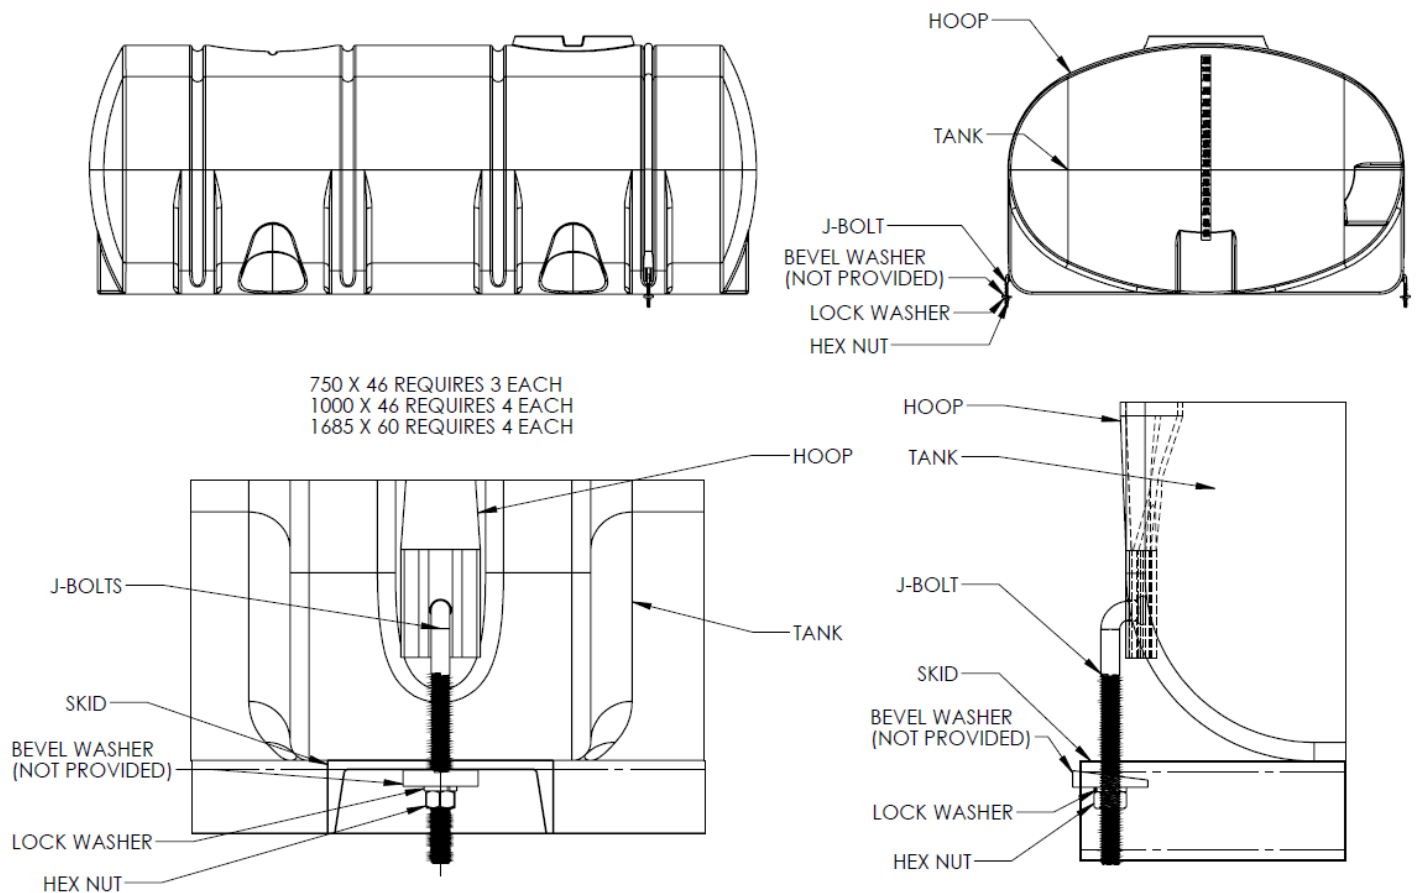

Figure 8.8
8.8.1 Horizontal leg tanks are to be used only with adequate support. The hoop pipe restraints restrain the leg tank and give it structural support. Hoop restraints are available for tanks 525 gallons and larger. Hoops are required on tank sizes above 730 gallons. An example assembly drawing is shown in Figure 8.8.
8.8.2 With one person on each side of the tank, insert J-bolts into the hoop holes and lift the hoop into position directly above the tank legs. Spread the hoop slightly while sliding the hoop (centered in the pipe guide channel formed into the tank legs) onto the tank. Install the bevel washer, lock washer, and hex nut on each of the J-bolts loosely. Do not tighten the hex nuts yet. See view A-A shown in Figure 8.8 for an illustration of the loosely assembled J-bolt/hoop assembly.